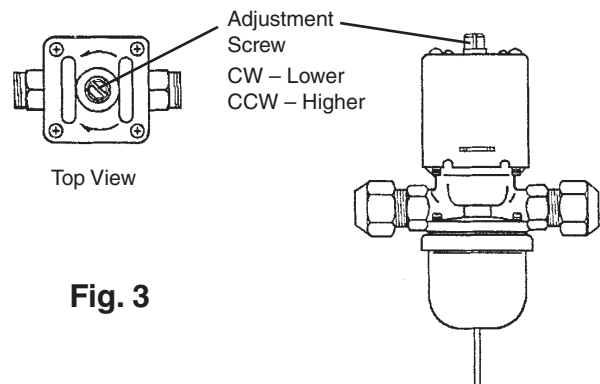

Fig. 3
- 2) Five minutes after a freeze cycle starts, confirm that the thermometer reads 104°F to 115°F (40°C to 46°C). If it does not, rotate the adjustment screw by using a flat blade screwdriver until the temperature is in the proper range. See Fig. 3. Next, check that the reference pressure is in the range indicated in the Head Pressure table in the Performance Data section. See "III.C. Performance Data." If it is not in the proper range, verify the refrigerant charge.